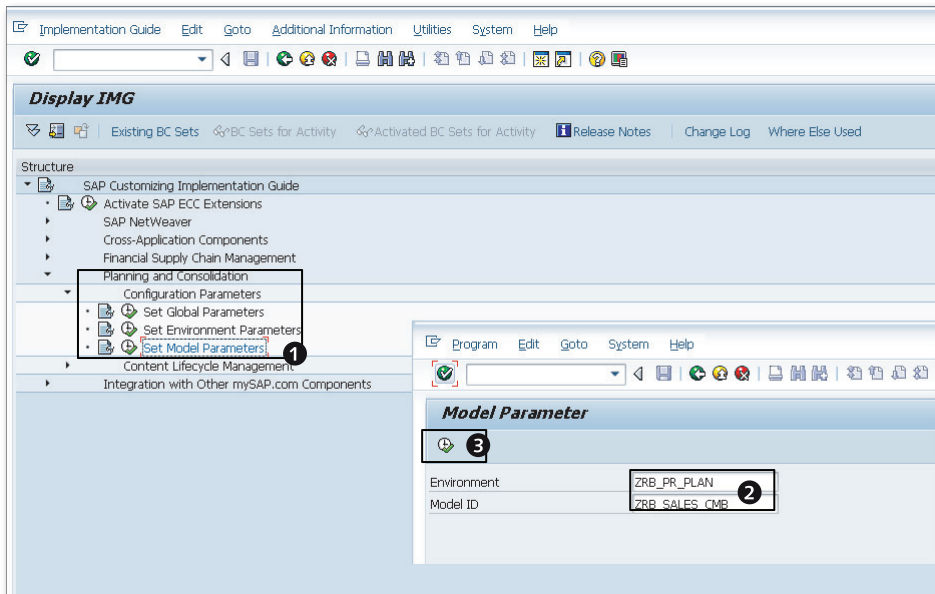

Figure 8.9 SAP BPC Parameter to Turn On Statistics—Part A
1. Log in to the SAP NetWeaver BW system. Execute Transaction SPRO, and then click on the SAP REFERENCE IMG menu option. In the IMG structure displayed, under CONFIGURATION PARAMETERS in the PLANNING AND CONSOLIDATION hierarchy, click on SET MODEL PARAMETERS to maintain the parameter for a model (Figure 8.9, ❶).
2. A new dialog box will prompt you to select the environment and model to set the parameter. Using the dropdown box, select the desired environment and model (Figure 8.9, ❷). Then click on EXECUTE (Figure 8.9, ❸).